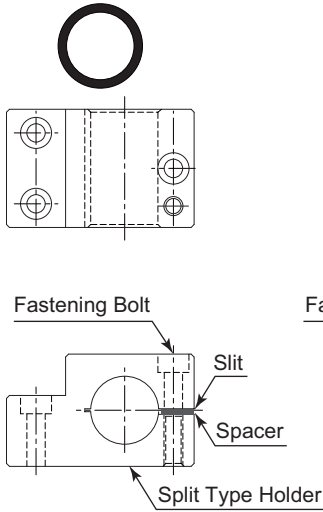
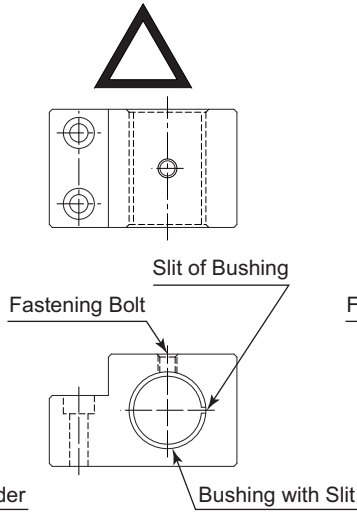

Fig. 15
Fig. 16
- ② The installation shown in Fig. 15 "How to install using a split type holder" is the recommended installation method. Refer to ③ "How to fabricate a Split Type Holder" section. If this is not possible, install as shown in Fig. 16.